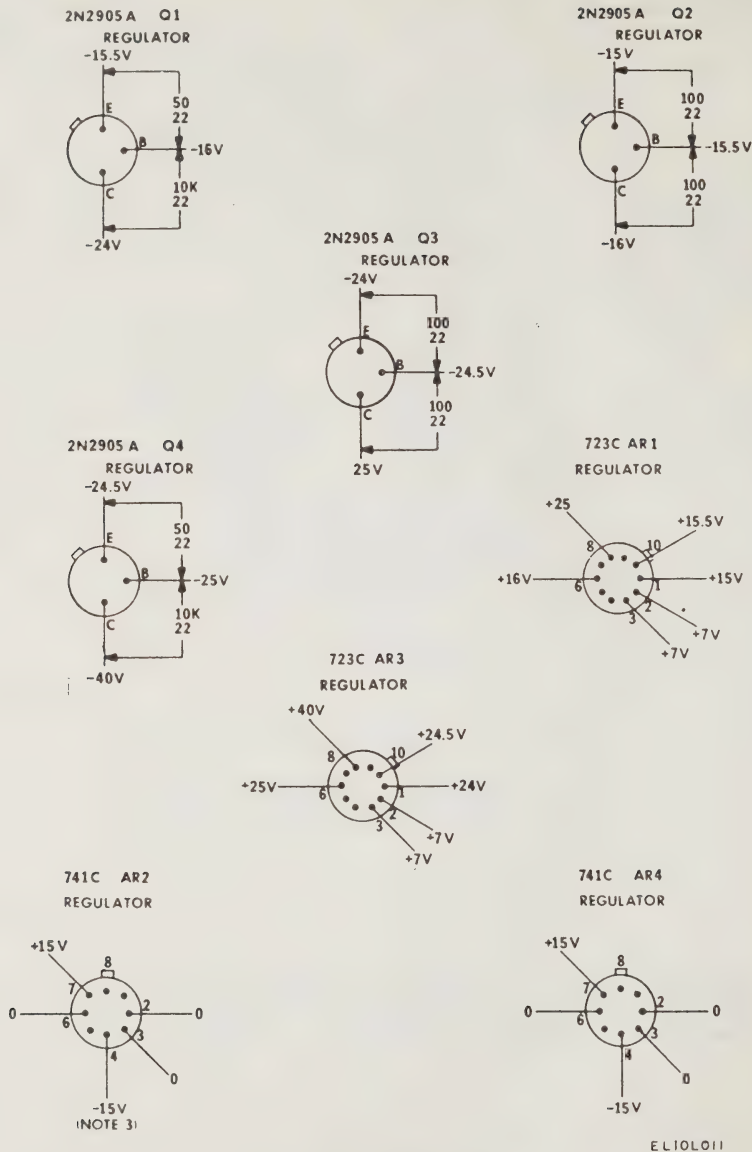

Figure 7-3. Power supply regulator A11, circuit measurements.
the location of the power supply assemblies and to figures 7-1 and 7-2 for parts location and test point location on the A11 assembly. Figure 7-3 gives circuit voltage and resistance measurements for assembly A11.
(1) Remove assembly A11 from its socket and perform the resistance measurements in table 7-4, using the RX1 scale on the multimeter. Make the measurements at the socket.
(2) If the resistance measurements are correct, reinstall A11 and perform voltage and resistance measurements as indicated in figure 7-3 to locate the defective part. If the resistance readings are lower than indicated, there may be a short circuit in the equipment. Systematically remove and replace the other assemblies to determine the location of the defect.